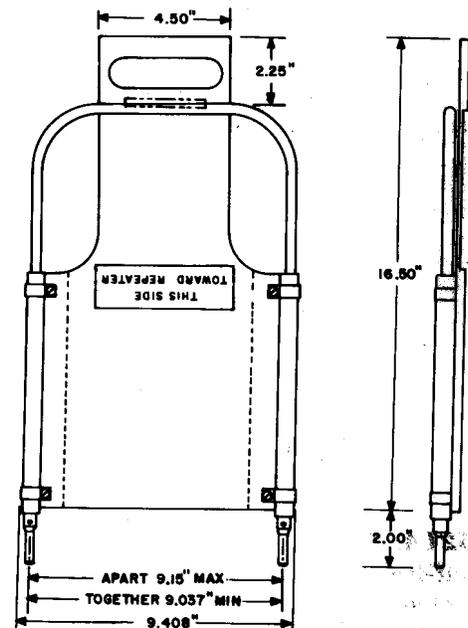

Fig. 3—519B Plug
2.03 519B: The 519B (Fig. 3) is a twin, through plug consisting of two modified 436 plugs connected by a 728A cable mounted on a red nylon plate. The 519B plug is used in the L5 Carrier System.